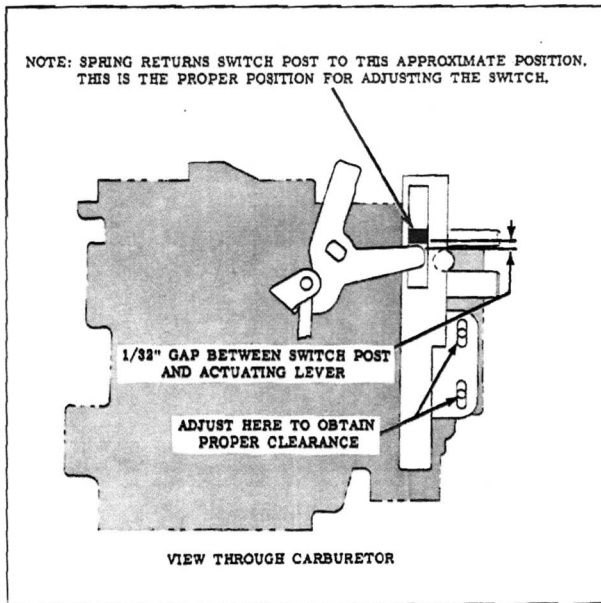

Fig. 40 Vacuum Switch Adjustment
1. Hold throttle valves completely closed. Check distance from the tang on the pump lever to the actuating post on the vacuum switch with a $1/32$ " drill as shown in Fig. 40.